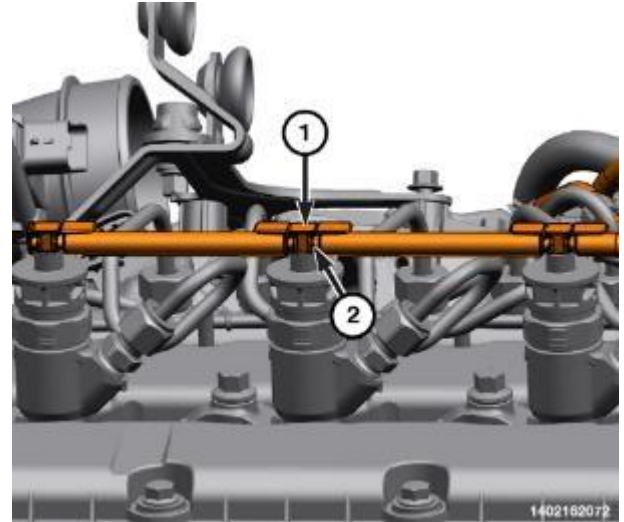

Figure 18 – Fuel Return Lines and Locking Tabs
31. Lift up on the locking retaining tab (1) to unlock the lock (Figure 18).
32. Disconnect the fuel return line (2) by wiggling the hose free from the fuel injector (Figure 18).